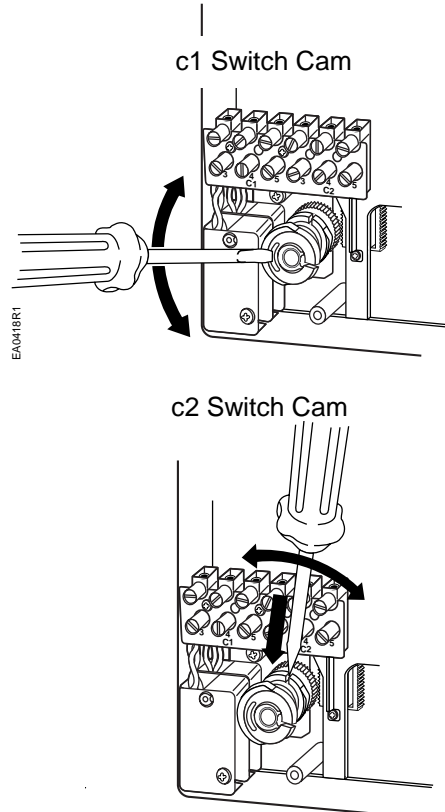

Figure 7. Adjusting the Switches.
4. With a flat blade screwdriver turn the switch cam until an audible click indicates the switch is actuated. See Figure 7.
5. Repeat steps 3 and 4 for setting the c2 switch cam. See Figure 7.